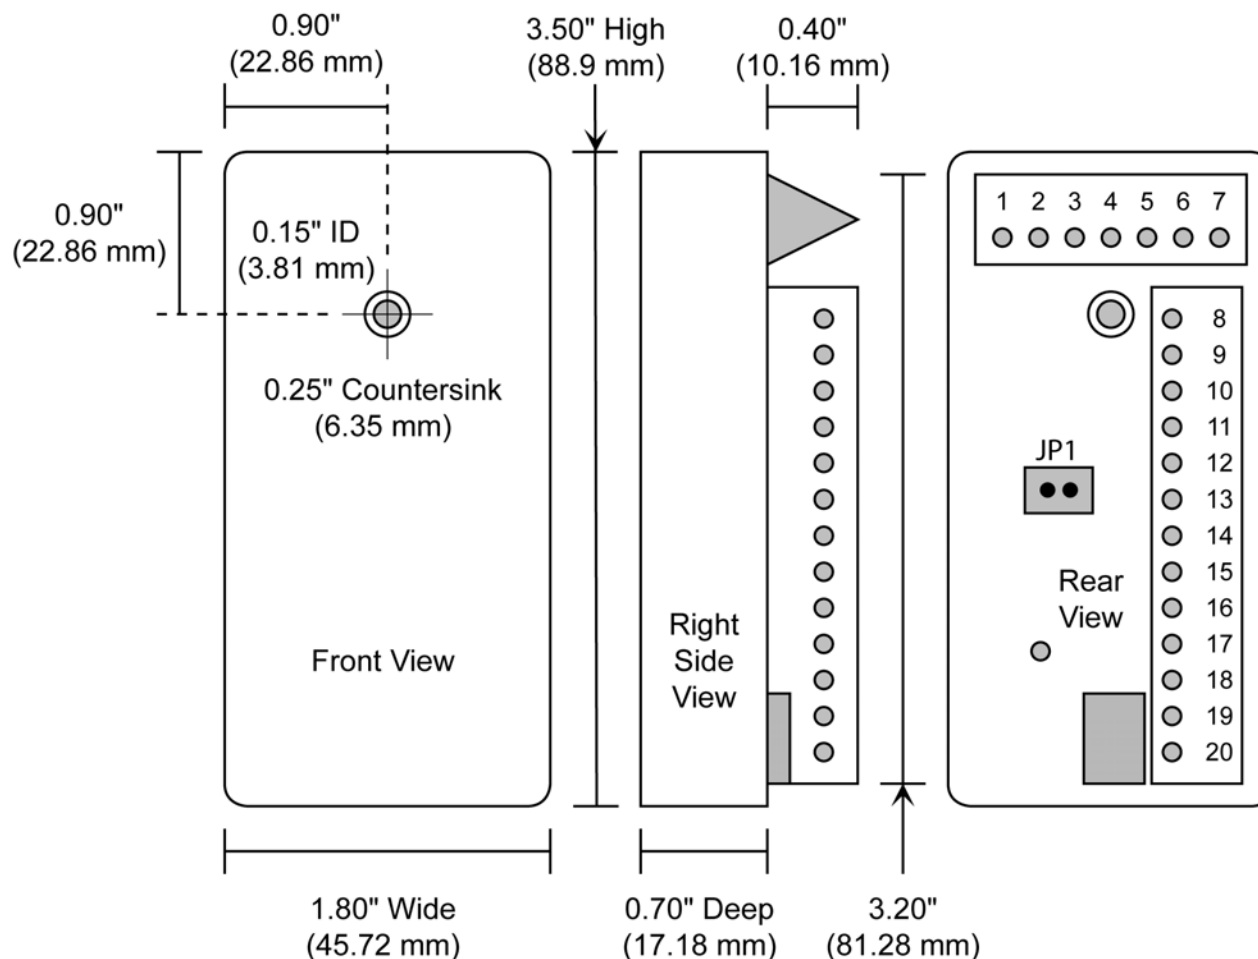

Figure 1: The *IntelliProx* SM-2000
Smart Module SM-2000 (see Figure 1):
There are no switches or jumpers required for normal operation. JP1 is used only for clearing the *IntelliProx's* PIN and system memory (see Figure 1). This should be done the first time the *IntelliProx* is powered on, prior to entering slot/card data, to remove any spurious information that may be in the *IntelliProx's* database. Once the database is cleared, any information that was in the database is erased and can only be recovered if the database had been saved using the D-Lite program. JP1 must be removed for normal system operation. Refer to Section 9 - First Time Power On Procedure: Pin and Memory Reset, LED Mode for instructions.
2. Install JP1 (see Figure 1).
1. Install JP1 (see Figure 1).